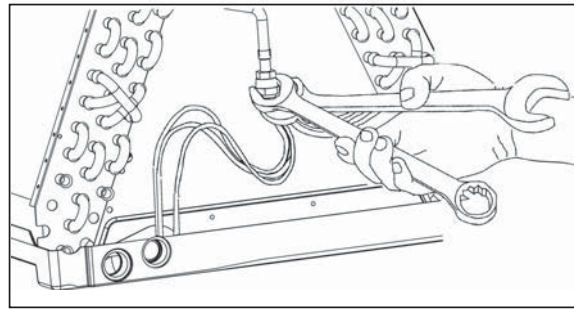

Figure 9. Wrenches on Distributor Body and Assembly Nut
3. Open the distributor body by using open end wrenches and turning the swivel nut (smaller wrench) counterclockwise. Remove the restrictor, being careful not to scratch the bore or the distributor body (See Figures 9 and 10).